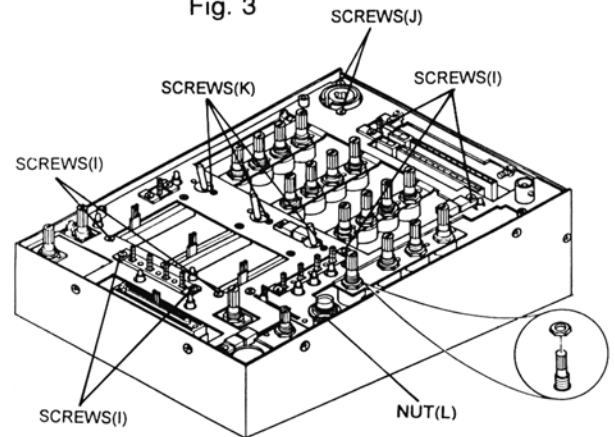

Fig. 4
- (e) Remove 16 screws(I).(Fig.4)
- (f) Remove 2 screws(J).(Fig.4)
- (g) Remove 6 screws(K).(Fig.4)
- (h) Remove 1 nut(L).(Fig.4)